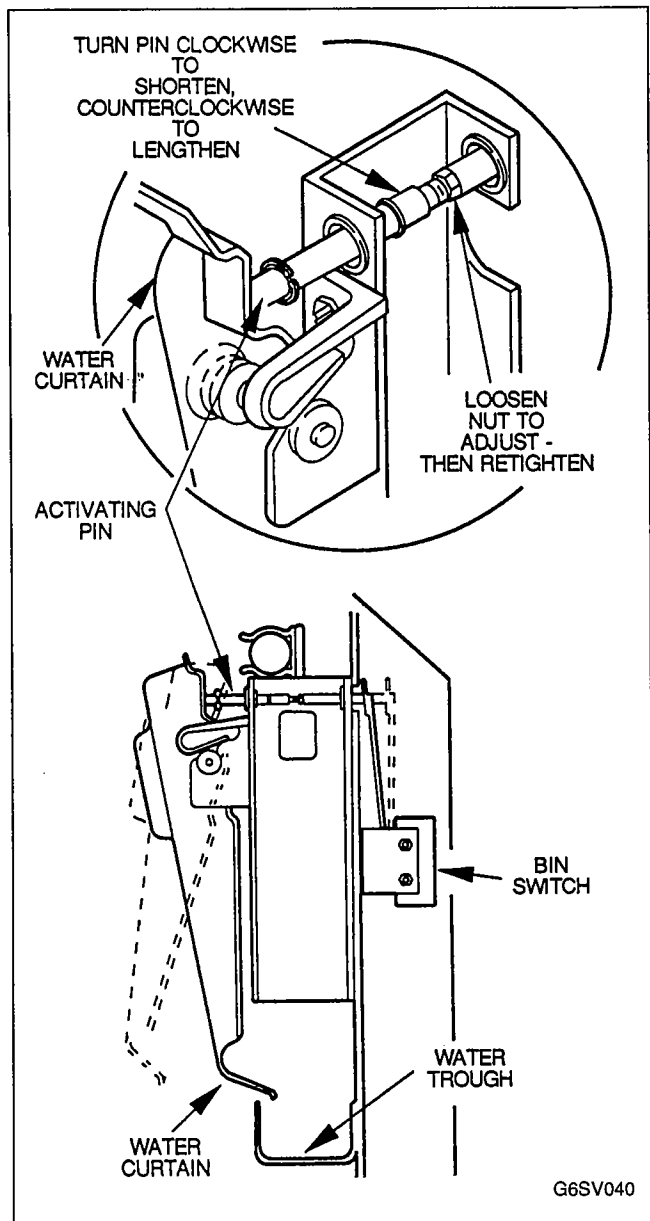

FIGURE 25. BIN SWITCH ACTIVATING PIN ADJUSTMENT
1. Pull water curtain away from evaporator until ice machine shuts off, Figure 25.
4. Bin switch pin adjustment (see Figure 25):